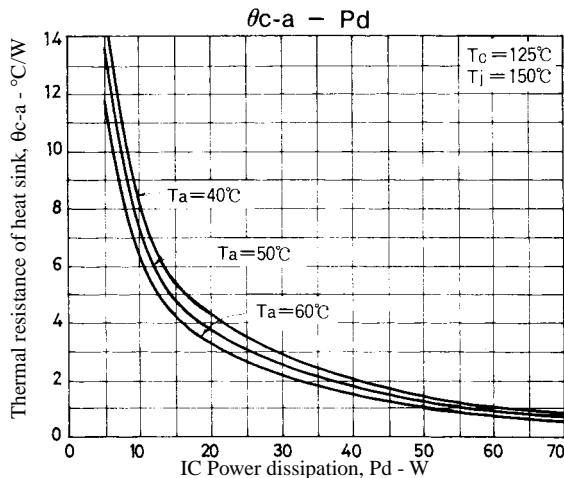

Figure 3. STK4040V $\theta_{c-a} - P_d$
Figure 3 shows the relation between P_d and θ_{c-a} given from (1) and (3) with T_a as a parameter.
The thermal resistance of a heat sink is obtained from Figure 3.